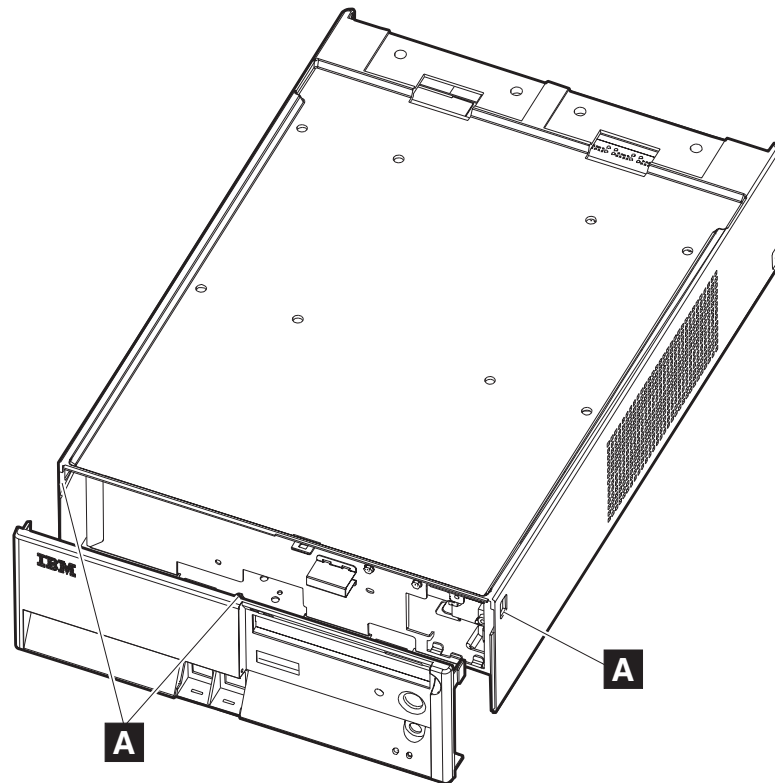

Figure 17. Removing the front bezel
- a. See Figure 17. Press the left latch and depress the center latch to loosen the bezel.
- a. See Figure 17 on page 29. Press the left latch and depress the center latch to loosen the bezel.